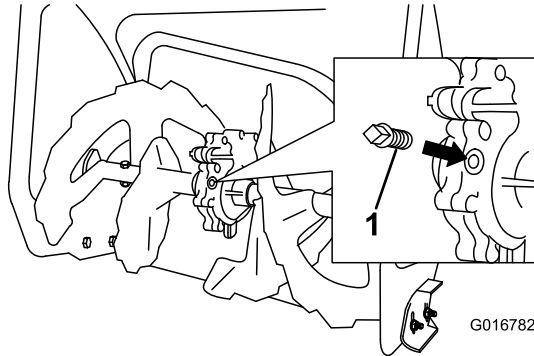

Figure 32
2. Clean the area around the pipe plug (Figure 32).